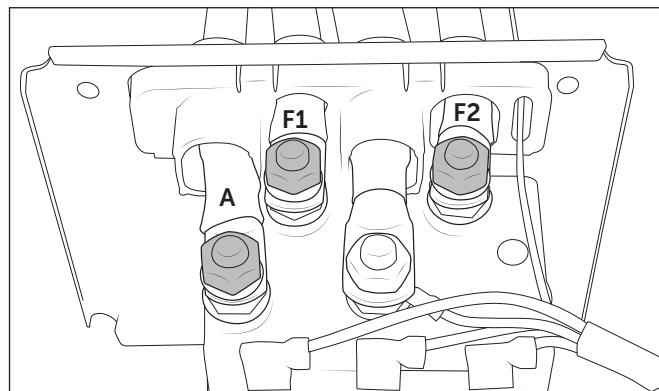

Figure 3
2. Disconnect the leads labeled A, F1, and F2 and remove the Warn harness from the controller (fig. 3).